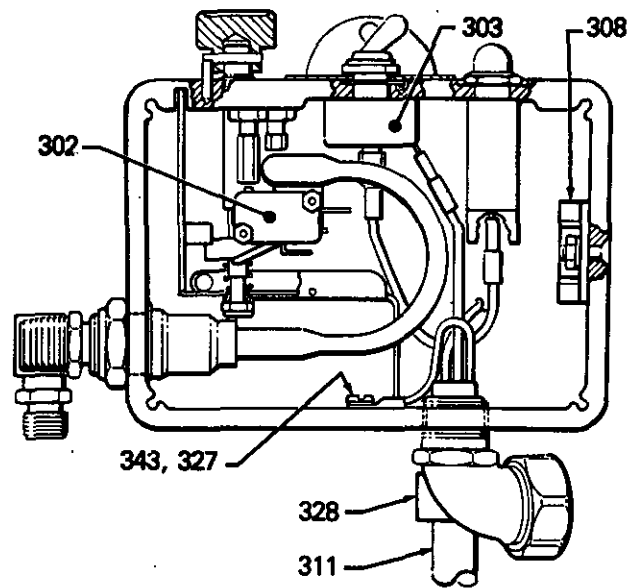

Fig 15
2. Disconnect the power supply cord lead from the ON/OFF switch (303), the white wire going to the bridge (308), and the green wire to the grounding screw (343) and lockwasher (327). See Fig 15.
3. Loosen the strain relief bushing (328). Remove the power supply cord (311).
2. Use a needle nose pliers to disconnect the upper terminal wire from the microswitch (302) for ease in removing the ON/OFF switch (303). Refer to Fig 15.
3. Use the pliers to disconnect the two black wires from the ON/OFF switch (303). Refer to Fig 15.
9. Reconnect the wires to the ON/OFF switch (303) and reconnect the wire to the microswitch (302). Refer to Fig 15.